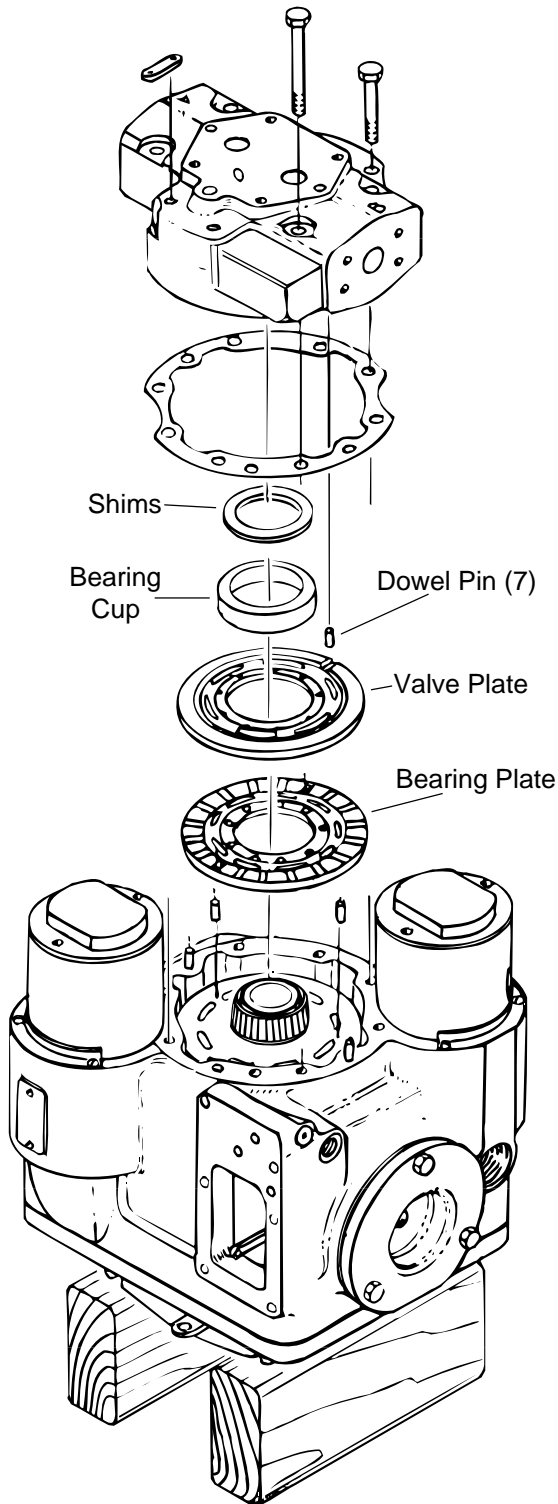

Figure 14
**Note:** Keep track of the dowel pins, see figures 14 and 17. There is a total of seven dowel pins in the motor. It is a good idea to put them in a small box so they don't get lost.